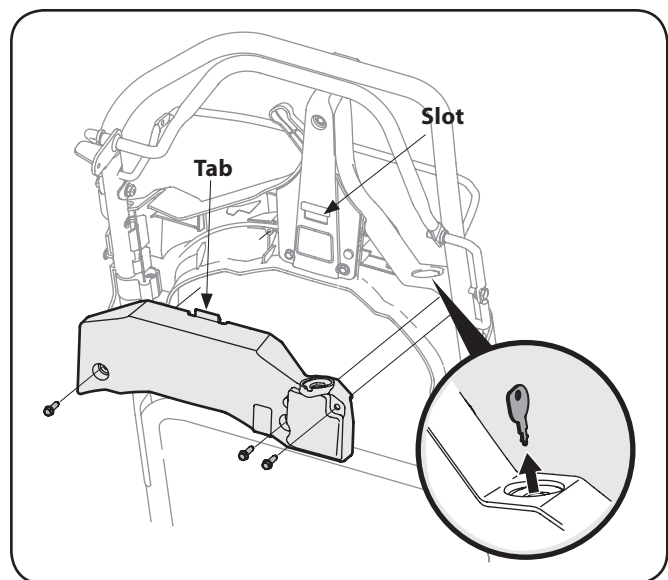

Figure 7-2
3. Carefully remove the harness assembly from the speed control housing. See Fig. 7-2.
- Reattach battery harness assembly to the speed control housing, making sure to snap the tab on the harness into the slot on the housing. See Fig. 7-2. Secure with the three screws removed earlier.
1. Open the battery cover as described in Replacing Battery. See Fig. 7-2.